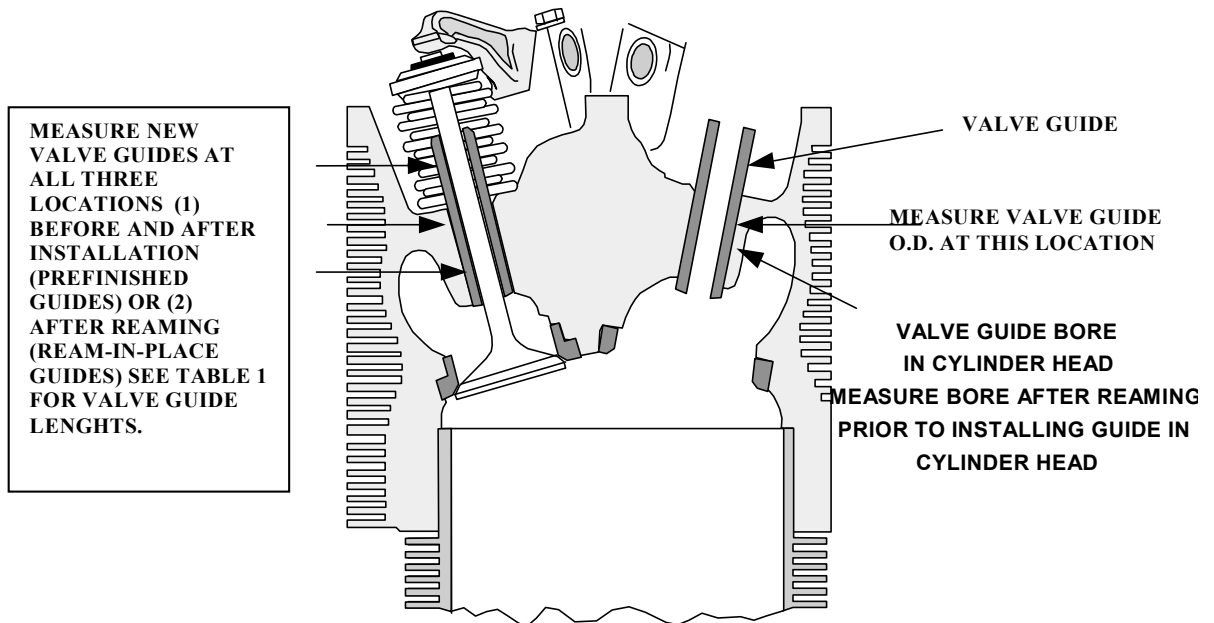

FIGURE 2
2. Measure valve guide inside diameter at three equally spaced locations along the length of the valve guide. Reference Figure 2 and Table 1.
3. Measure the outside diameter of the valve guide below the flange, reference Figure 2. Record these readings on the repair work order.
3. A. (Pre-finished Guides) After installing new valve guides allow the cylinder to cool and stabilize at room temperature before taking any dimensional measurements. Measure valve guide inside diameter at three equally spaced locations along the length of the valve guide. Reference Figure 2. If inside diameter is not within the specific new minimum and maximum dimensional limits, the guide will require finish reaming to size or replacement.
B. (Ream-in-place Guides) Post installation measurements are only required on ream-in-place guides after reaming procedures have been completed. Allow the cylinder to cool and stabilize at room temperature before taking any dimensional measurements. Measure valve guide inside diameter at three equally spaced locations along the length of the valve guide, reference Figure 2. If inside diameter is not within specifications, the guide will require refinishing or replacement.